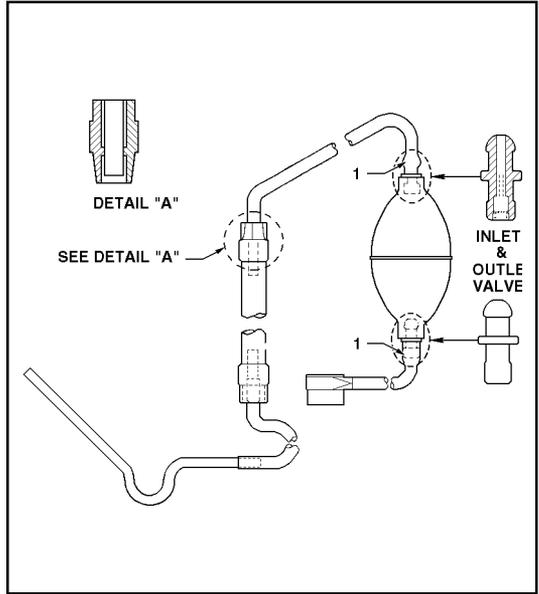
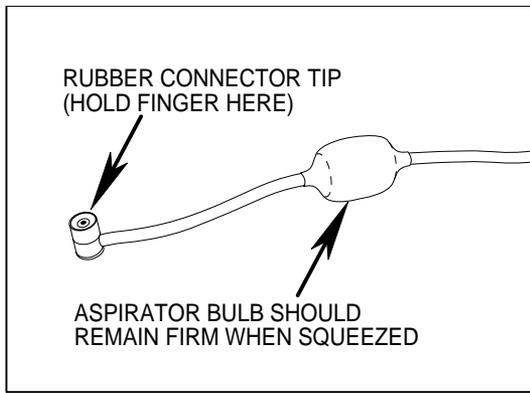
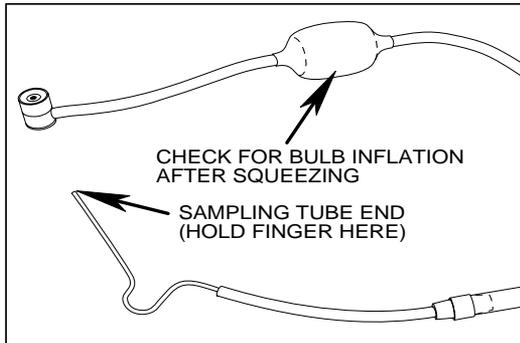

Figure 26. FYRITE Sampling Assembly; Locating Inlet/Outlet Check Valves.
Figure 27. Testing Sampling Assembly (outlet side) for leaks.
Figure 28. Testing Sampling Assembly (inlet side) for leaks.
6.7 Aspirator Bulb - Sampling Assembly (Refer to Figs. 26, 27, & 28)
To inspect Sampling Assembly, seal hole in the center of rubber Connector Tip firmly with finger and squeeze Aspirator Bulb (Figure 27). Bulb should remain firm. If Bulb collapses, check Bulb and Hose to Connector Tip for cracks or other source of leakage. Replace defective parts. If there are no apparent leaks in the Sampling Assembly, replace Inlet Check Valve. **Small hole end of Inlet Check Valve fits in Hose and large hole end fits in the Aspirator Bulb (Figure 26).**
Now seal end of metal Sampling Tube with finger, and collapse Aspirator Bulb. (Figure 28). If the Bulb returns to original shape in less than 15 seconds, inspect Hose, Filter, Saturator Tube and Metal Sampling Tube for leaks. If none are found, replace the Outlet Check Valve. **Small hole end of Outlet Check Valve fits in Aspirator Bulb and large hole end fits in the Hose (Figure 26).**